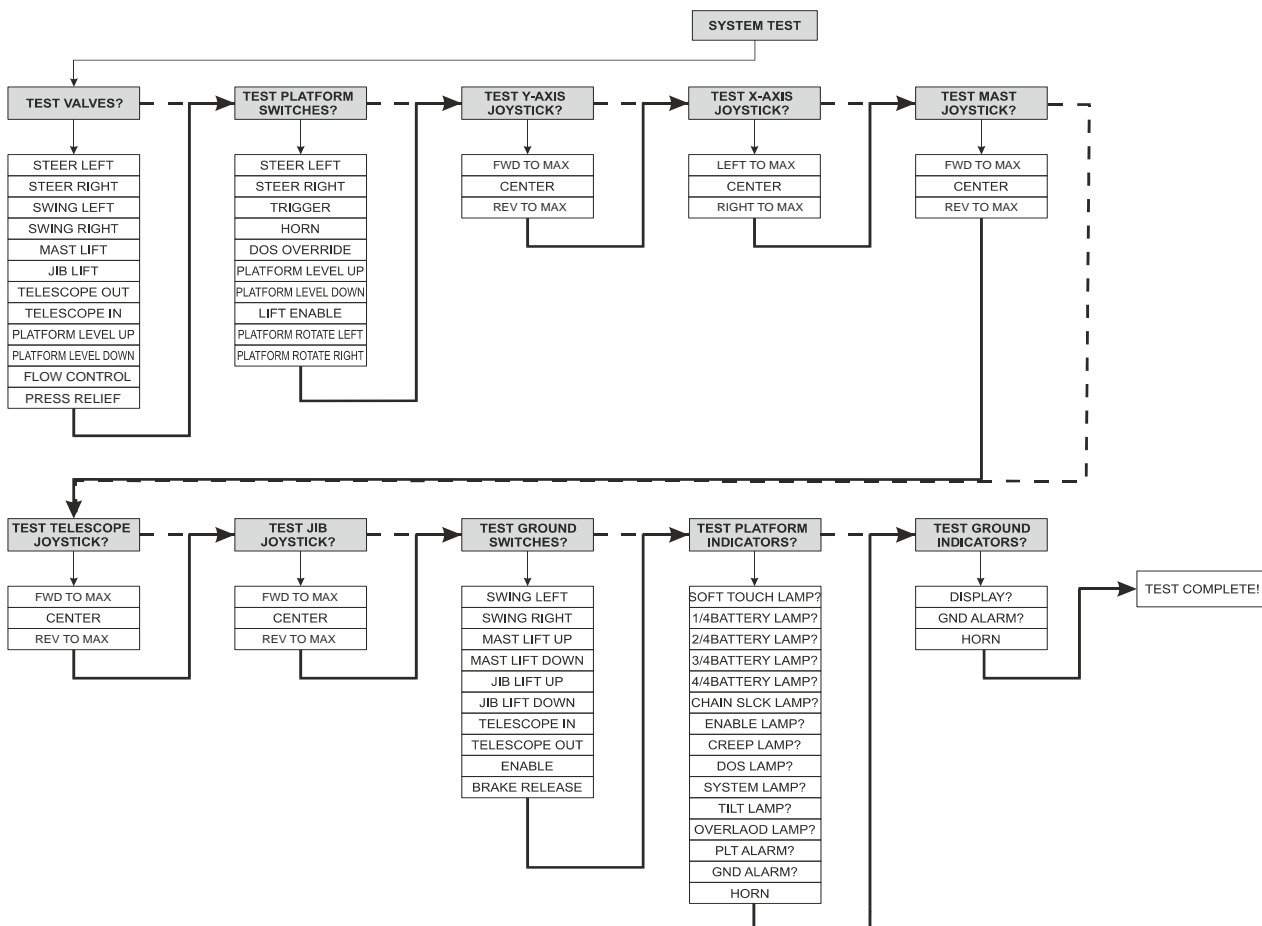

Figure 9-6. System Test Flow Chart
- Follow the flow path in Figure 9-6., System Test Flow Chart and go through the component tests. Hit ESC key during any part of the test to return to the main menu without completing all tests or wait until all tests are complete. During the TEST SWITCHES sequence, the analyzer allows control switches to be operated and shows if they are closed (CL) or open (OP). During the TEST INDICATORS sequence, the operator is prompted to confirm (by pressing ENTER key) that the named lamp is lit.